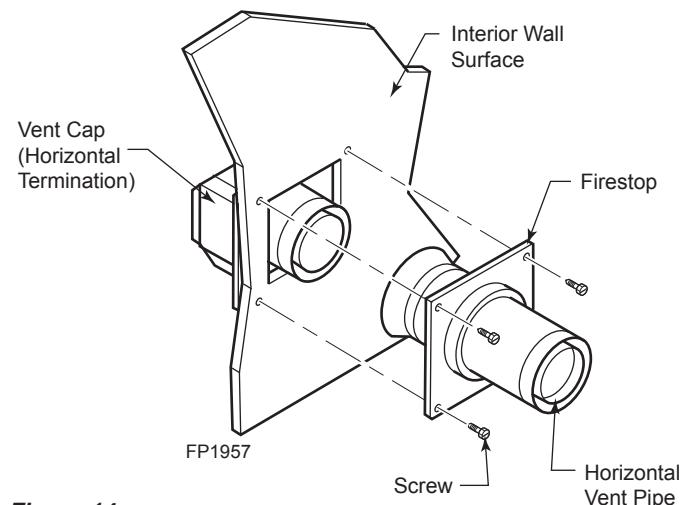

Figure 14 -
5. Slide the wall thimble over the vent pipe before connecting the horizontal run to the vent cap. *Figure 14*
7. Slide the wall thimble against the interior wall surface and attach with screws. *Figure 14*